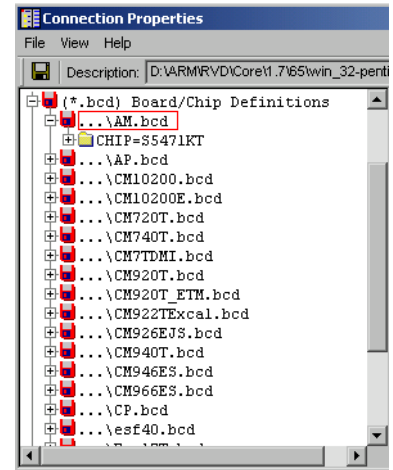

Figure 13-13 Viewing the new group in the .bcd file
6. Expand the .bcd file group to see the new CHIP=S5471KT group, shown in Figure 13-13 on page 13-18.